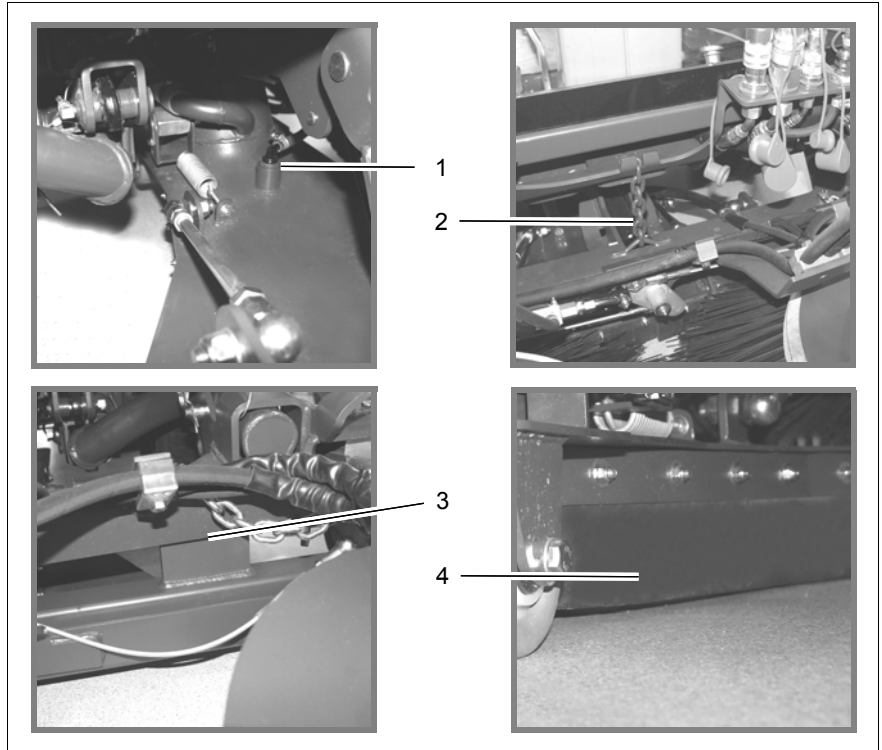

Fig.32
9. Attach the solution hose (Fig. 32/1).
10. Raise the sweeping unit by pressing the Raise button (on the right-hand operating panel) and attach the attachment chain (Fig. 32/2).
Position the setting down frame at the centre of the frame (Fig. 32/3).
When setting down the sweeping unit ensure that the seals (Fig. 32/4) on the vacuum nozzle are not kinked.